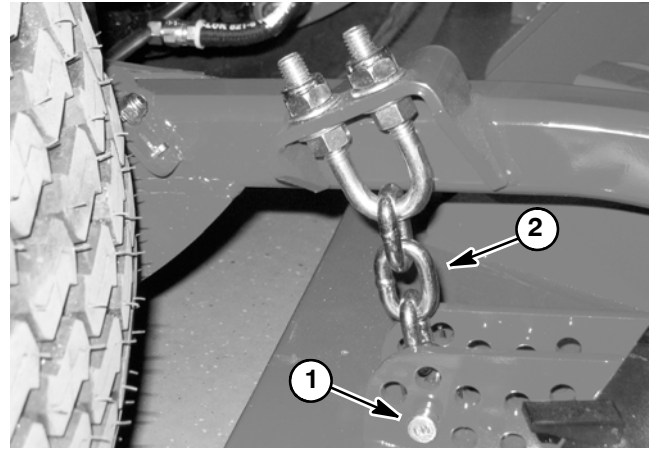

Figure 2
3. Remove hairpin and clevis pin that secure the height-of-cut chain to the rear of the cutting deck (Fig. 2).
4. Install clevis pin and hairpin that secure the height-of-cut chain to the rear of the cutting deck (Fig. 2).
6. Position damper (item 30) to cutting deck bracket and secure with spring pin (item 32).